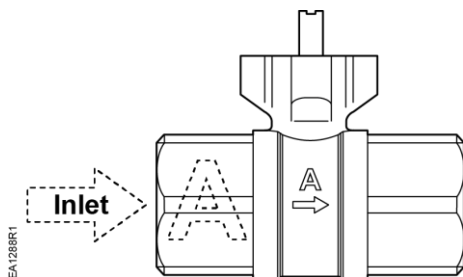

Figure 4.
- a. **Non-installed Valves** – Verify that the ball valve is open by looking into the **A** (inlet) port to see if it is open. See Figure 4.
- Non-installed valves** - visually verify that the ball valve is closed by looking into the **A** (inlet) port. See Figure 4.